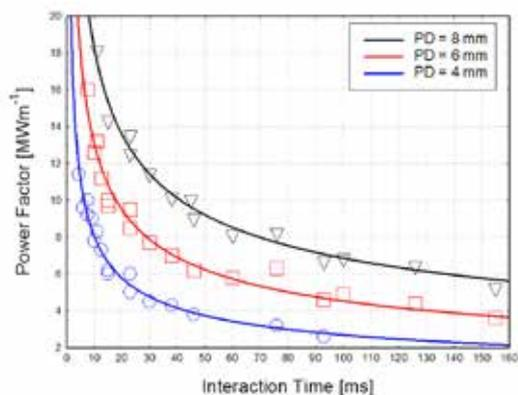

Figure 1: Power factor model for CW keyhole laser welding [2]
The empirical data for the power factor model are shown in Figure 1, which is based on several welding experiments. The graph shows the correlation between the power factor, interaction time and the penetration depth (PD). The model combines three system parameters into two and it is shown that there are infinite number of combinations of power factor and interaction time for any weld depth, but every combination results in different weld profile and quality, i.e. longer interaction time usually results in wider welds and smoother beads.